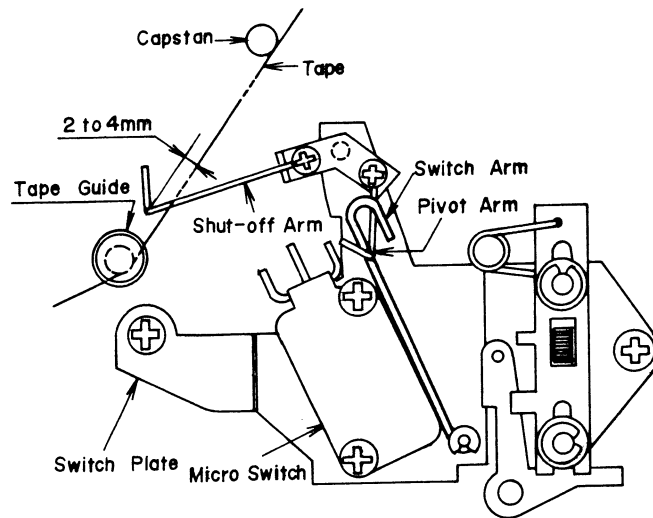

Fig. 1-15
(10) SHUT-OFF MECHANISM ADJUSTMENT
- Adjust pivot arm so that the position of the shut-off arm is 2 to 4 mm from the tape surface when the micro switch is depressed by the switch arm. (Refer to Fig. 1-15)